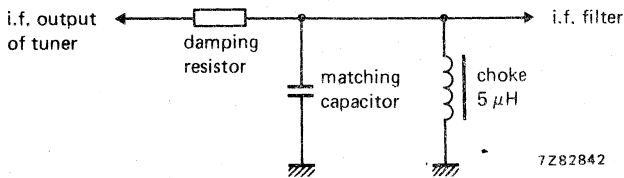

Fig. 8.
The tuner needs a d.c. path from the i.f. output terminal (10) to earth, preferably via a choke of approx. $5 \mu\text{H}$ outside the tuner (Fig. 8). For damping the i.f. output circuit and matching the i.f. output impedance of the tuner to the i.f. amplifier, a series resistor and a parallel capacitor as shown in Fig. 8 should be used.